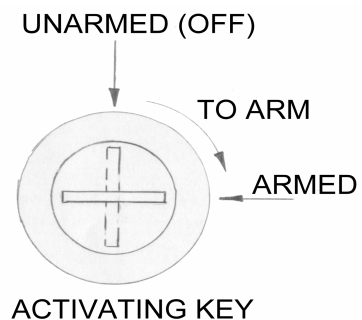

Figure 2
- 2) Turn the key to the unarmed position as shown in Figure 2.
- 6) Turn the key to the armed position as shown in Figure 2.